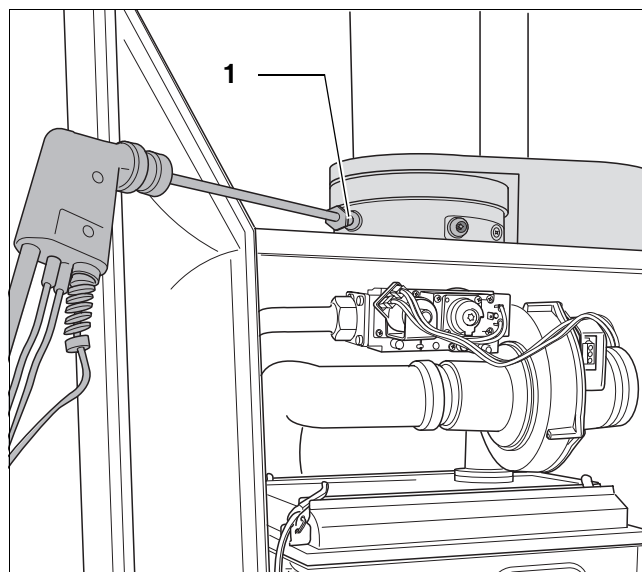

fig. 17 Measuring the carbon monoxide content
3.5 Measuring the carbon monoxide content (CO)
- Measure the carbon monoxide content on the flue gas sampling point (fig. 17, **pos. 1**).